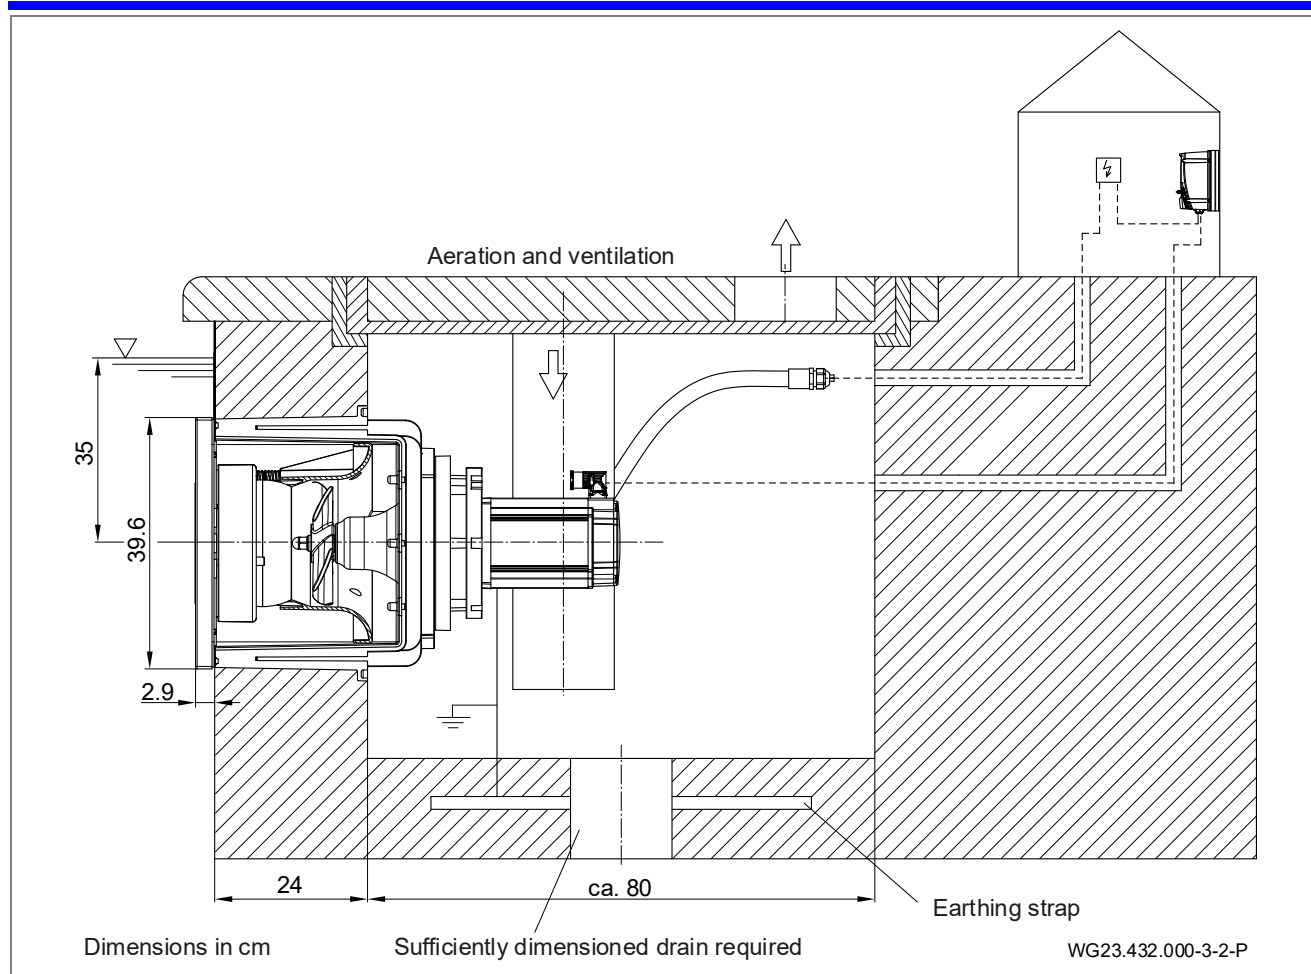

Fig. 17
1. Remove grease from the connection nozzle (d, see "Fig. 17" on page 23) on the plastic housing (1) and the connection socket of the cable protection tube (12) with PVC-U/ABS cleaner.
The system must be installed in a shaft which borders the edge of the pool. The installation space must have perfect ventilation and sufficient ground drainage. There must be a fastening possibility for the cable protection hose (above the water level if possible). There must be a potential equalisation connection in the shaft. See point "Fig. 17" on page 23.